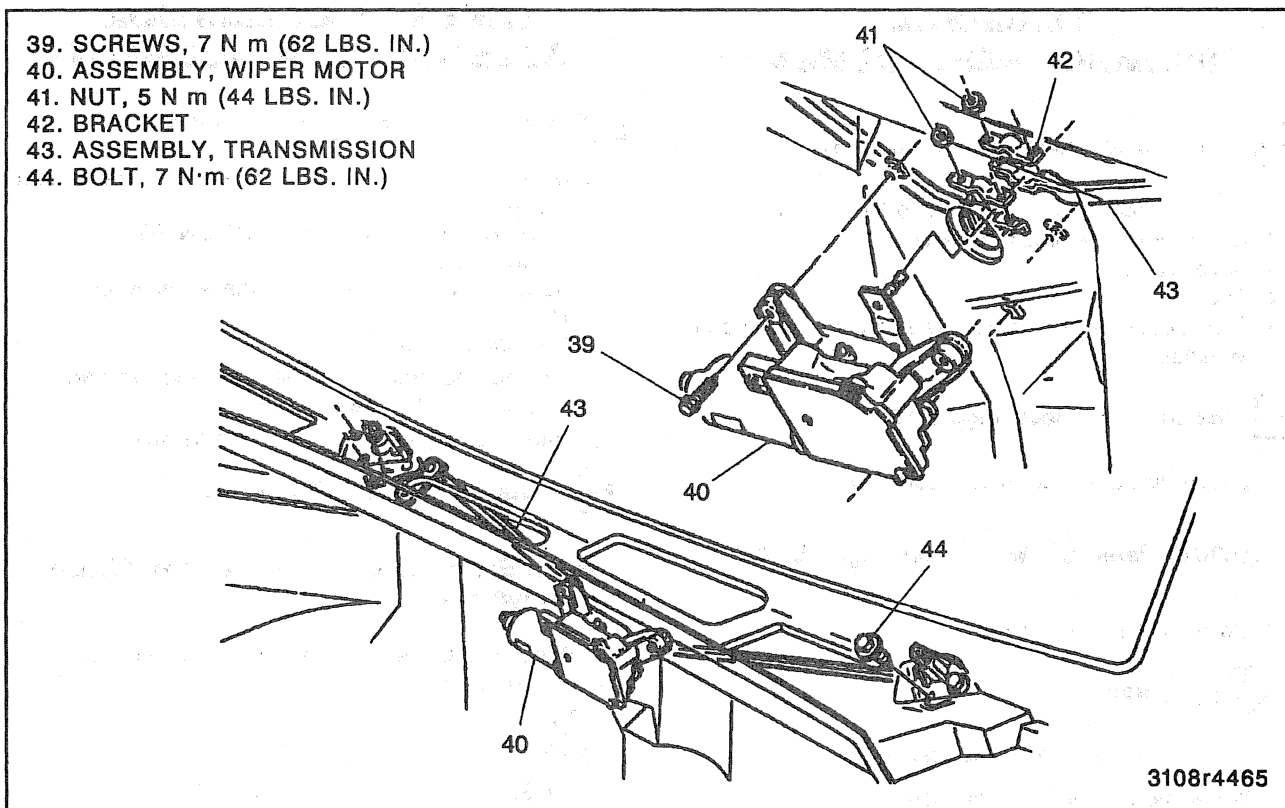

Figure 20—Wiper Transmission and Motor Assembly Replacement
↔ Remove or Disconnect (Figure 20)
→ Install or Connect (Figure 20)
- Assemble the brackets in the order shown in figure 20. (Right side linkage closest to the wiper motor).